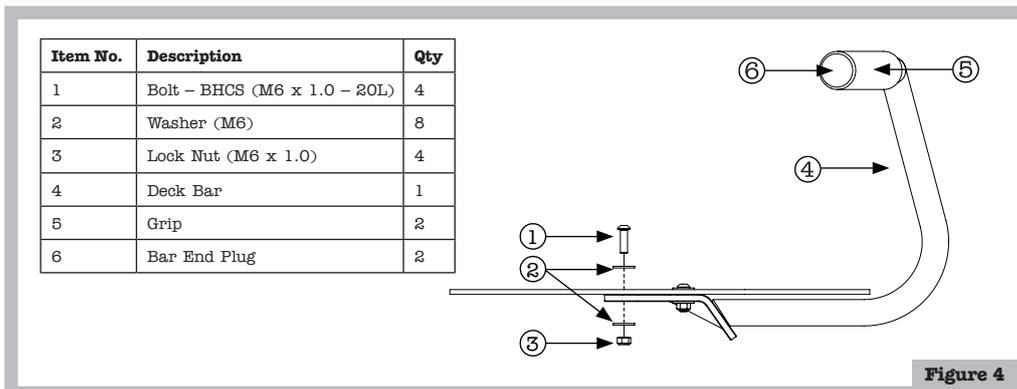

Figure 4
2. Align the Deck Bar on the underside of your Dummy Deck with the appropriate holes for the mounting position, loosely assemble hardware (Fig. 4). Do not fully tighten yet.